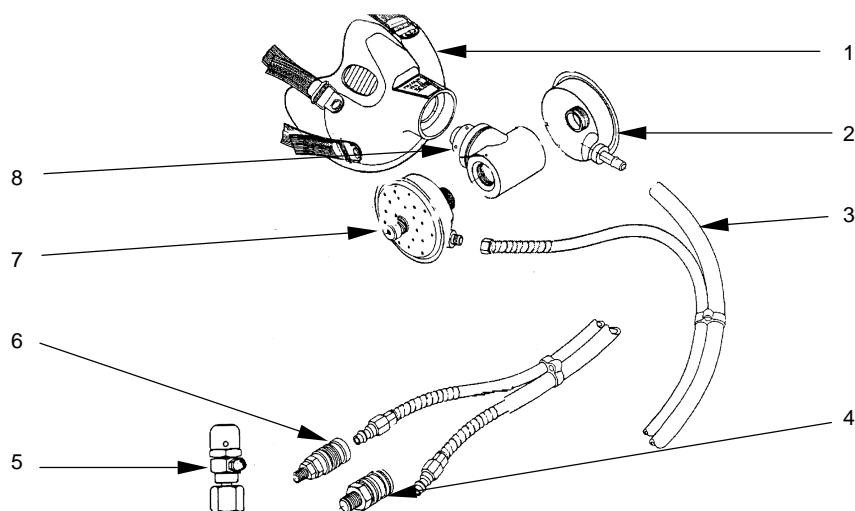

Figure 6-22. BIBS Regulator and Mask Assembly
**6-7.4 BIBS COMPONENTS.** The BIBS system within the chamber consists of regulators, quick disconnects, hoses, and masks (see Figure 6-22 and Table 6-19). In the event of component failure, remove and replace the failed component or assembly. For further information on repair or replacement of BIBS components, refer to the individual BIBS component operation and maintenance manual. For a complete parts breakdown, refer to Figure 7-14.